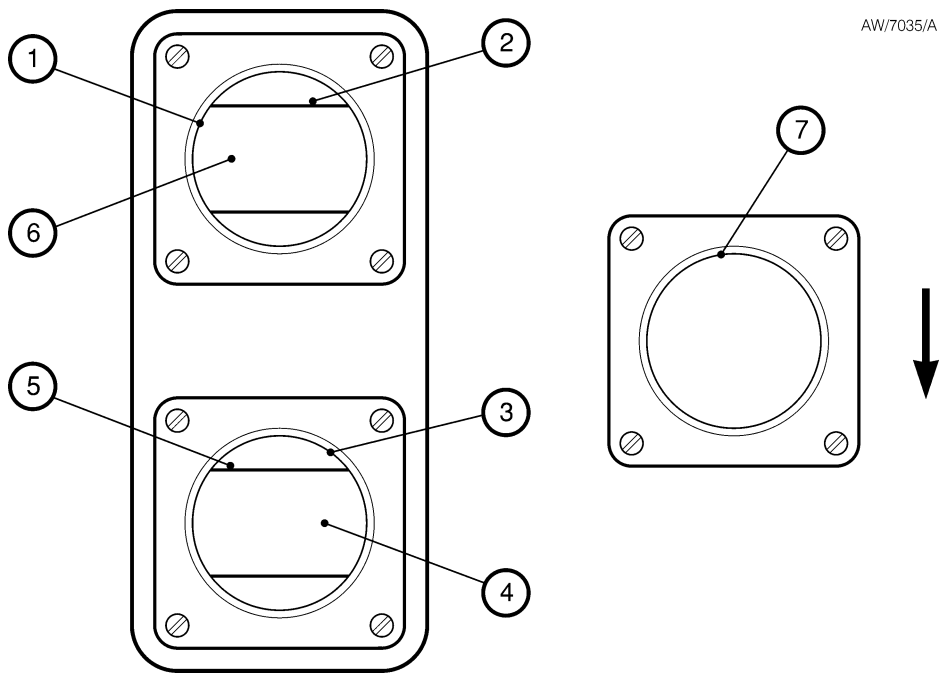

Figure 8 – Sight glasses
We recommend that the hydrokinetic drive/gearbox oil-level is maintained at the recommended oil-level shown in Figure 8, item 5; if the oil-level is above or below the recommended oil-level, the performance of the ZRS pump may be affected.
Do not allow the oil-level to fall below the bottom of the reflector plate (Figure 8, item 4) or the ZRS pump may be damaged.
2. Refer to Figure 8. Fill the hydrokinetic drive/gearbox with the recommended type of oil until the oil-level reaches the recommended oil-level (5) at the top of the reflector plate (4) in the oil-level sight-glass (3).
We recommend that you fill the shaft-seal reservoir so that the oil-level is at the recommended oil-level, shown in Figure 8, item 2.
2. Refer to Figure 8. Fill the shaft-seal reservoir with oil until the oil-level is at the recommended oil-level (2) at the top of the reflector plate (6).
On ZRS 250, ZRS 500 and ZRS 1200 model pumps, you can use the method above to determine the direction of rotation. Alternatively, the direction of rotation is also indicated by an arrow next to the direction of rotation sight-glass (Figure 1, item 10 and Figure 2, item 14): watch the motor-coupling in the sight-glass (Figure 8, item 7), switch on the ZRS pump for two or three seconds, then switch the ZRS pump off.